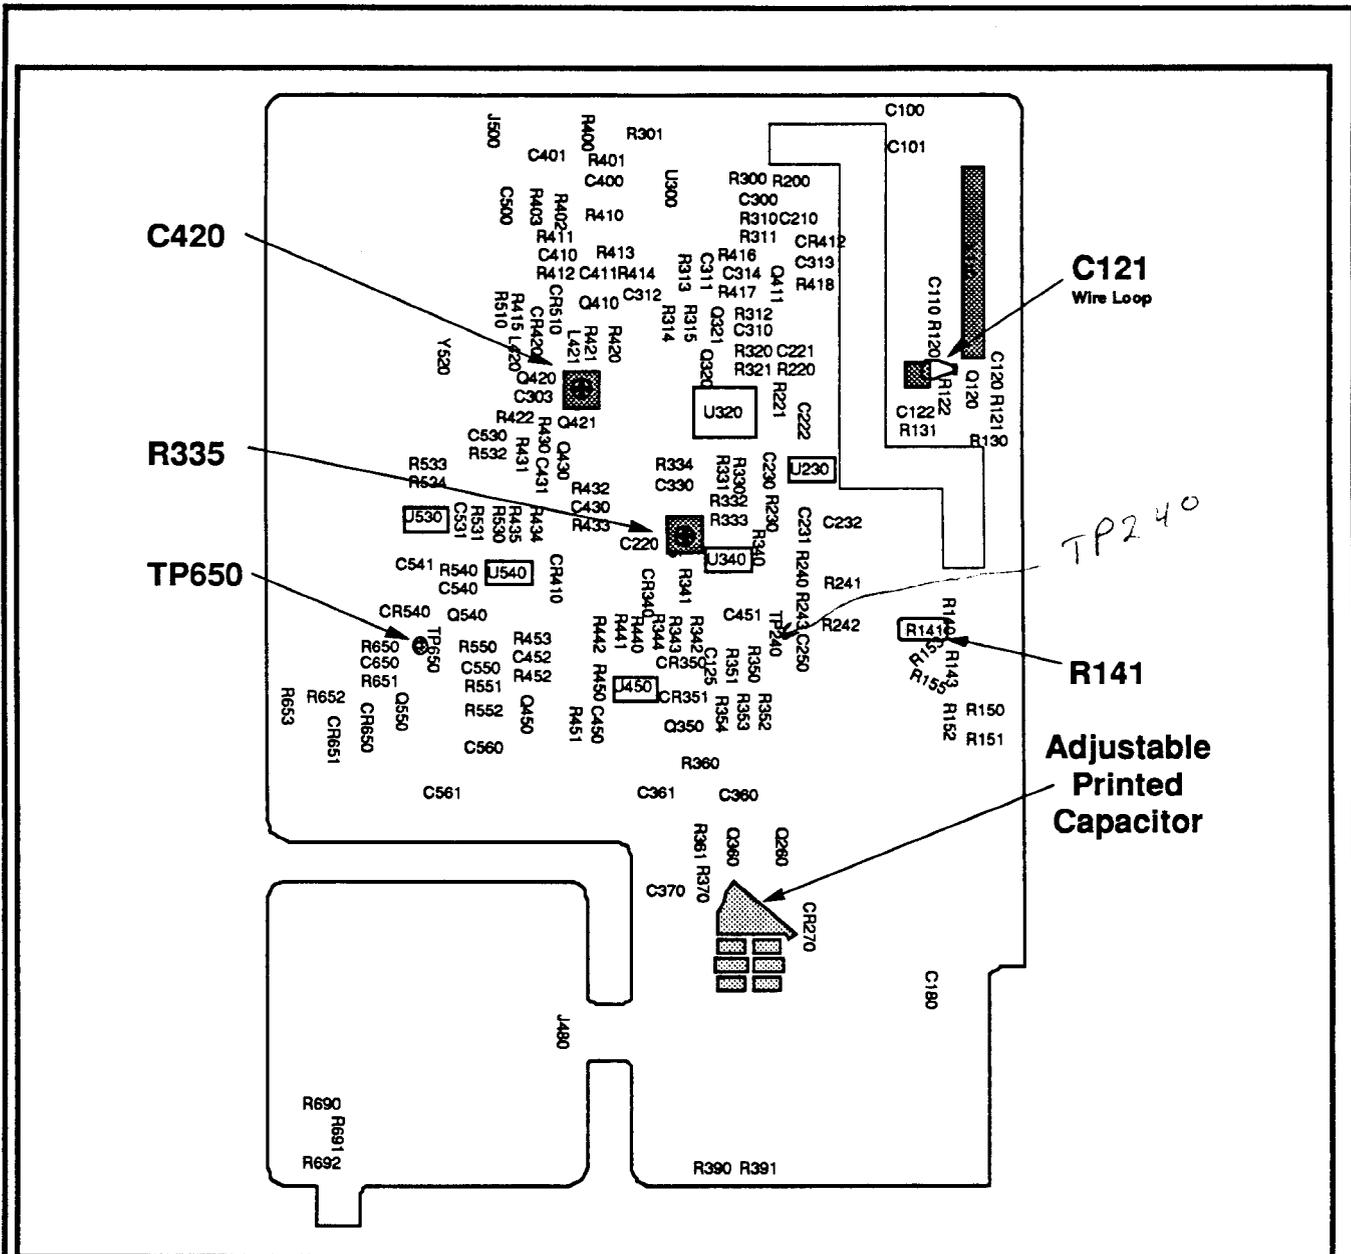

Figure 17. Adjustment locations on the PhaseLock Loop board.
d. Adjust C420 for peak amplitude on the test oscilloscope. See Figure 17 for the location of C420.
c. Monitor TP240 on the Phase Lock Loop board with test oscilloscope. See Figure 17 for the location of TP240.
d. Adjust C121 (Figure 17) on the Phase Lock Loop board for 7 Vdc at TP 240. (C121 may be a wire loop, chip capacitor, or metal tab.)
i. Set R335 on the Phase Lock Loop board fully clockwise. See Figure 17 for the location of R335.
l. Adjust the printed capacitor (Figure 17) on the Phase Lock Loop board as follows: